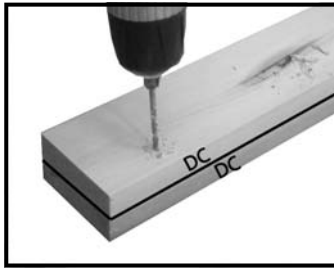

Fig B4
9. Place the other DC part underneath and drill through both pieces with a 3mm drill (fig B4)